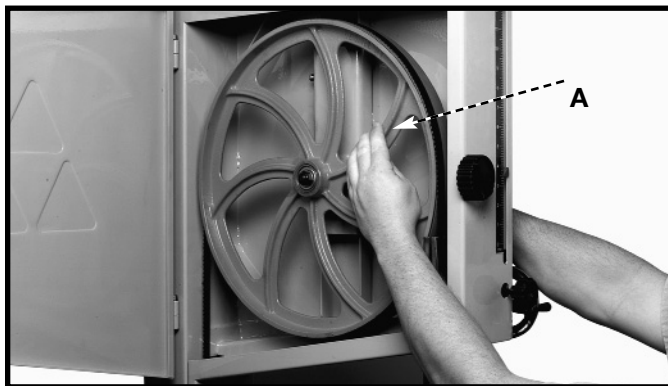
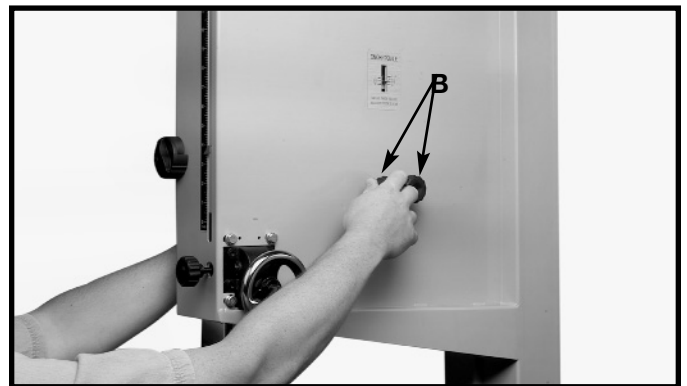

Fig. 19
Fig. 20
1. Rotate the upper wheel (A) Fig. 19 forward by hand and turn the tracking adjustment hand knobs (B) Fig. 20 until the blade travels in the center of the upper wheel’s tire. **Be sure the knobs (B) Fig. 20 are always turned equal amounts.**
NOTE: Before turning the hand knobs (B) Fig. 20, loosen the locknuts located under the knobs.
⚠ WARNING To avoid possible injury and/or damage to the blade, do not make the initial tracking adjustment while the machine is under power. The blade may run off the wheel instantly at high speed. Adjust the tracking knobs (B) Fig. 20 only a fraction of a turn at a time. Each blade has its own tendencies, especially after welding or brazing. Repeat the blade tracking adjustment each time a new or repaired blade is installed, regardless of prior adjustments.
3. Make any necessary final adjustments at operating speed and tighten the locknuts located under the knobs (B) Fig. 20.